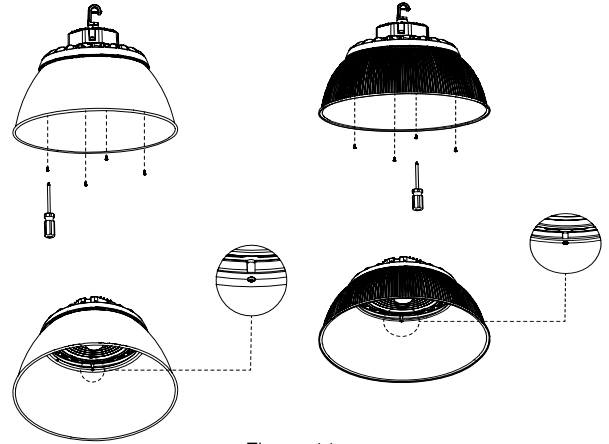

Figure 11
- 1). Lock the PC or Aluminum reflector to the fixture (figure 11)